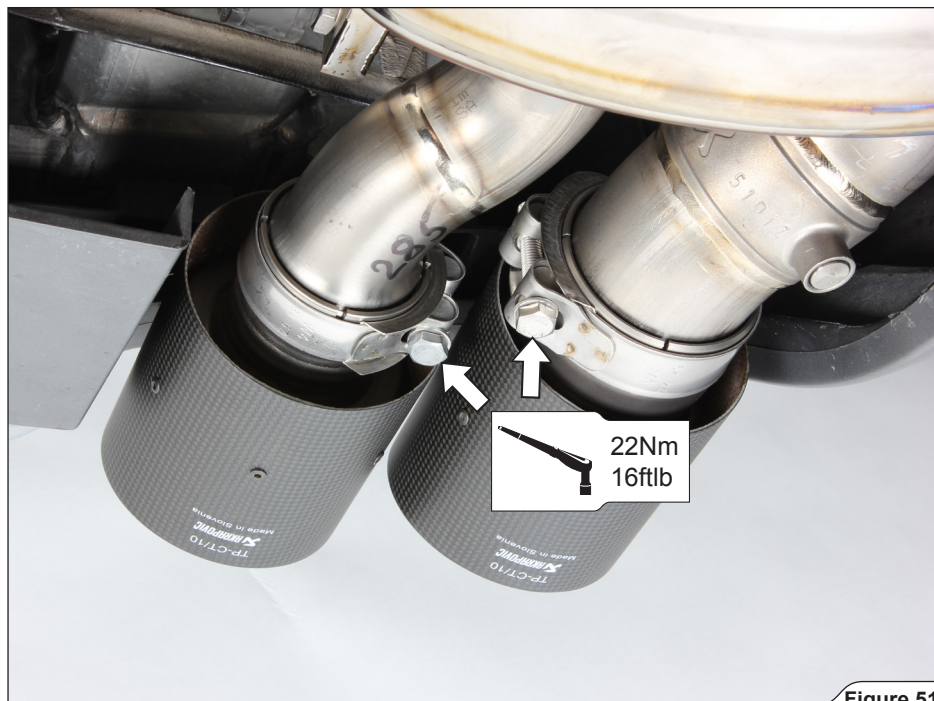

Figure 51
17. Tighten tail pipe clamps to the specified torque on both sides of the vehicle (**Figure 51**).